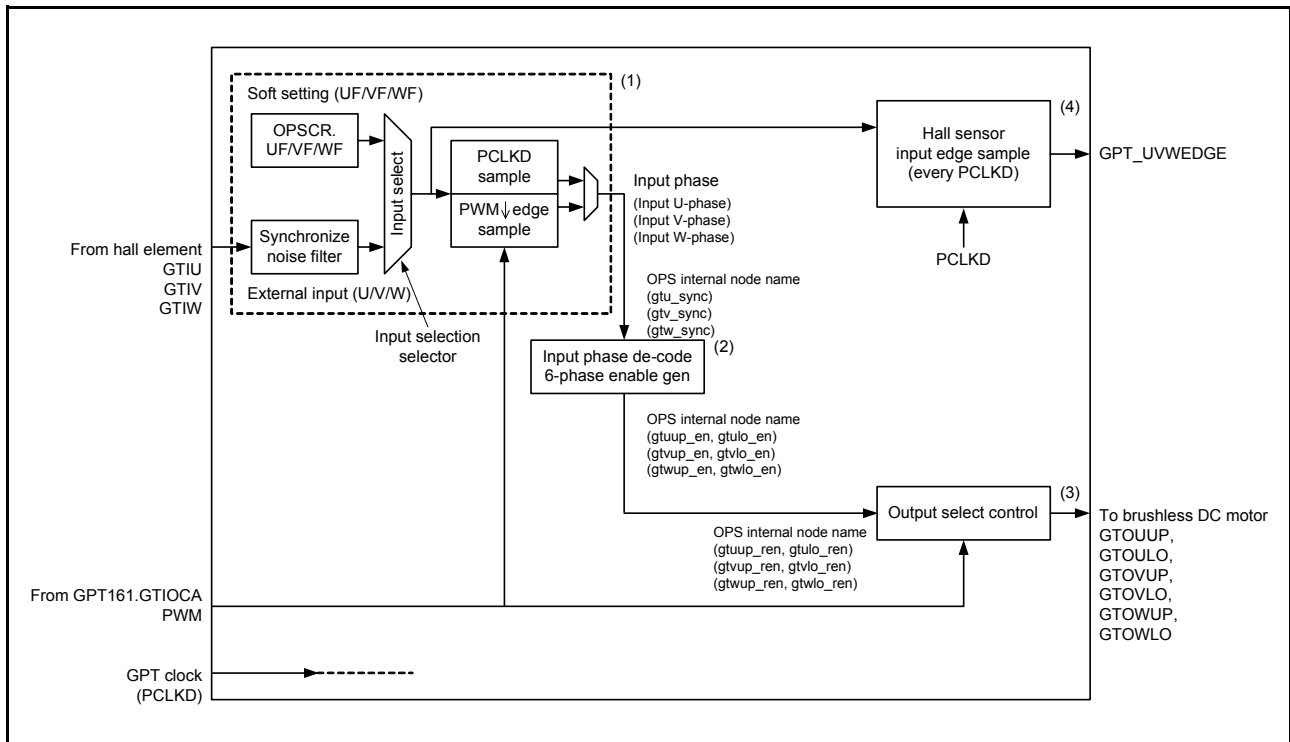

Figure 19.77 GPT_OPS control flow conceptual diagram
Figure 19.77 shows the GPT_OPS control flow conceptual diagram.
In the GPT_OPS control flow conceptual diagram shown in Figure 19.77, (1) is a selection of input phase from the software settings and external input by the OPSCR.FB bit.
In the GPT_OPS control flow conceptual diagram shown in Figure 19.77, (2) enables the 6-phase signals by decoding the input phase selected by the OPSCR.FB bit. The 6-phase enable signal is used for internal processing of GPT_OPS.
In the GPT_OPS control flow conceptual diagram in Figure 19.77, (3) presents the selection of the output waveform by setting the OPSCR register bit.
In the GPT_OPS control flow conceptual diagram shown in Figure 19.77, (5) outputs the hall sensor input signal edge to the event link controller.